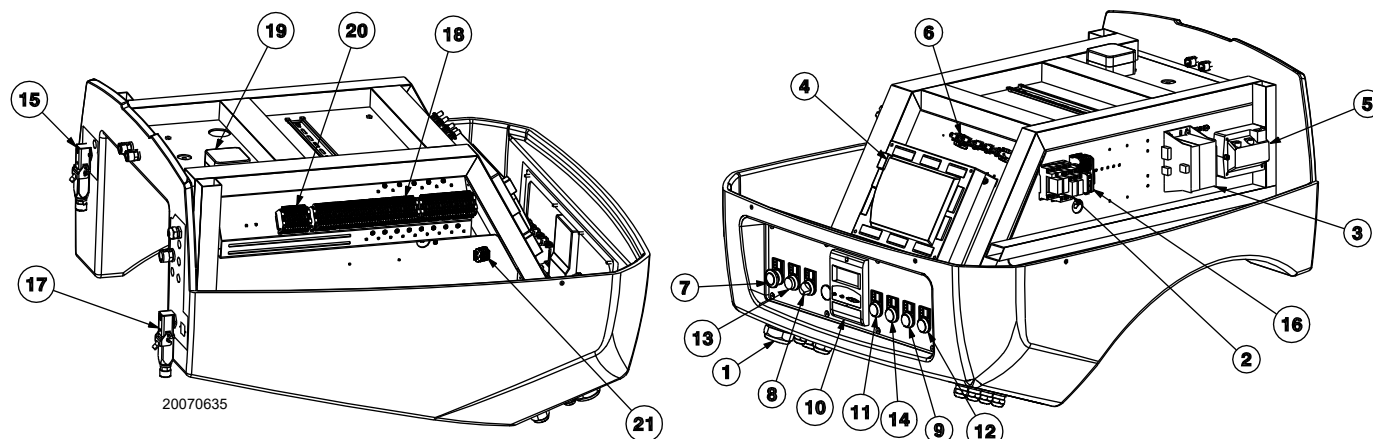

Fig. 5
- **Control box lockout:** switching on of button 13)(Fig. 5) (**red led**) signals that the burner is in lockout. Release by pressing button 13) or else use the Display 10).